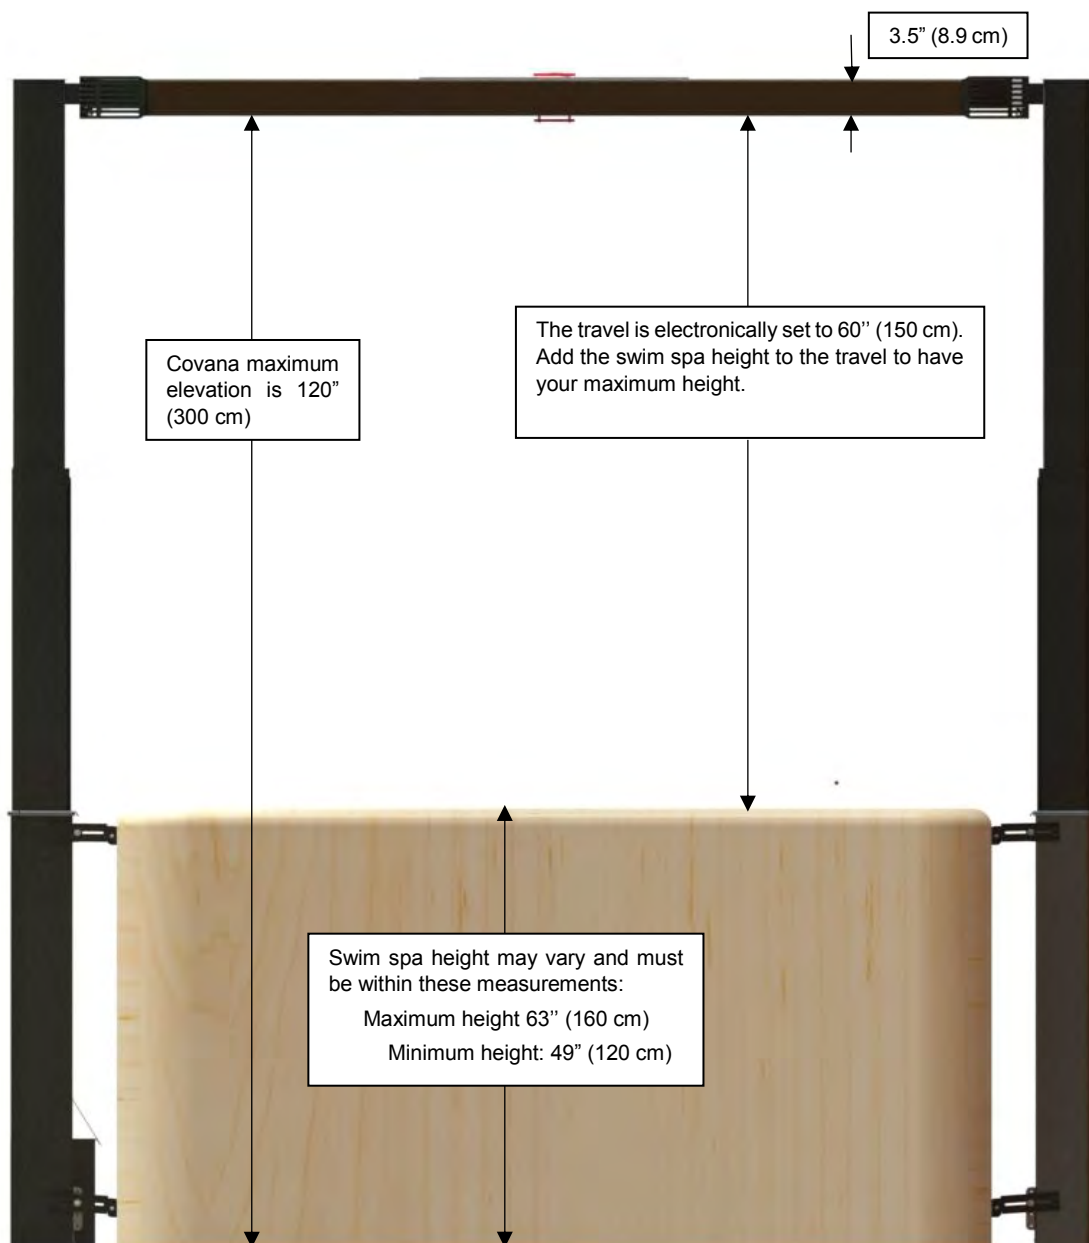

Figure 117
- ♦ Do not exceed 120 in. (3 m) from the bottom of sleeve to under the cover. Refer to *Side elevation dimensions*' section for more information. (Figure 117)